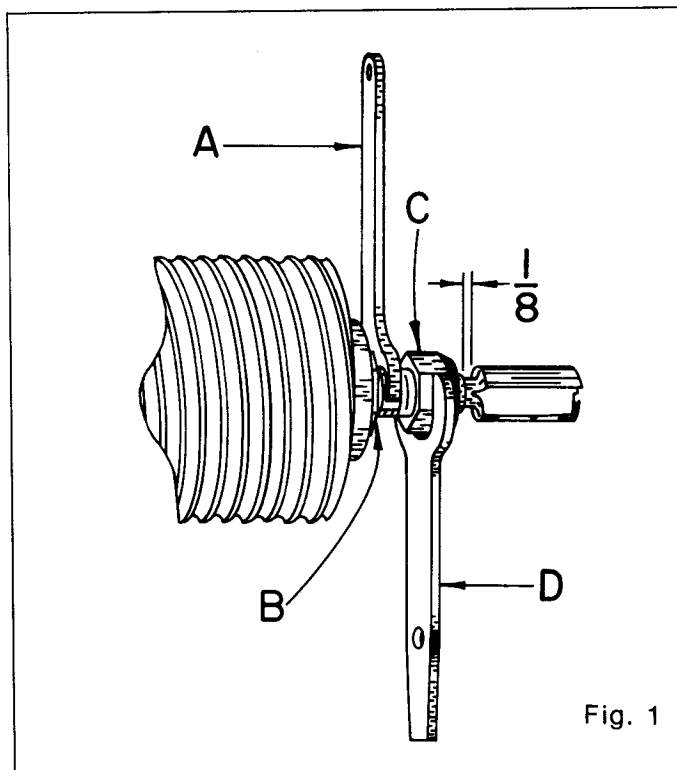

Fig. 1
3. Place the router less base assembly on a table or workbench. Insert shank of the cutter to within  $\frac{1}{8}$  inch of bottom of collet. See Figure 1.
4. Hold the output shaft with wrench (A) provided. **Do not try to hold the shaft with nut (B).**
5. Tighten the collet nut (C) securely with wrench (D) provided.